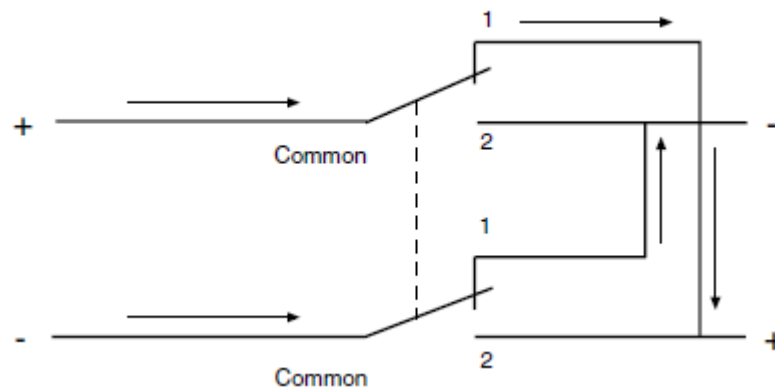

Figure 14: Double-pole changeover contacts
- **Double-pole changeover contacts** - enable the polarity reversal of two conductors, which is often required in control circuitry. (For example, motor reversal and intermediate switching in lighting circuits.) Reversal of polarity is shown in the circuit diagram in Figure 14. The arrows show how the polarity is reversed with contacts in number 1 position.